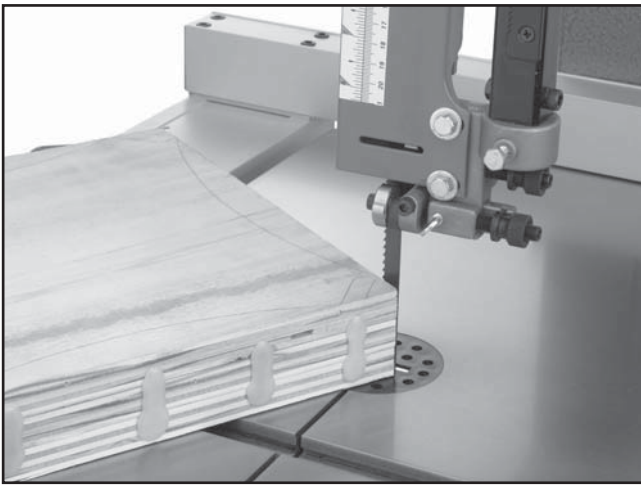

Figure 33. Cutting multiple pieces at once.
5. Cut the stack of pieces as though you were cutting a single piece. Follow your layout line with the blade kerf on the waste side of your line as shown in **Figure 33**.